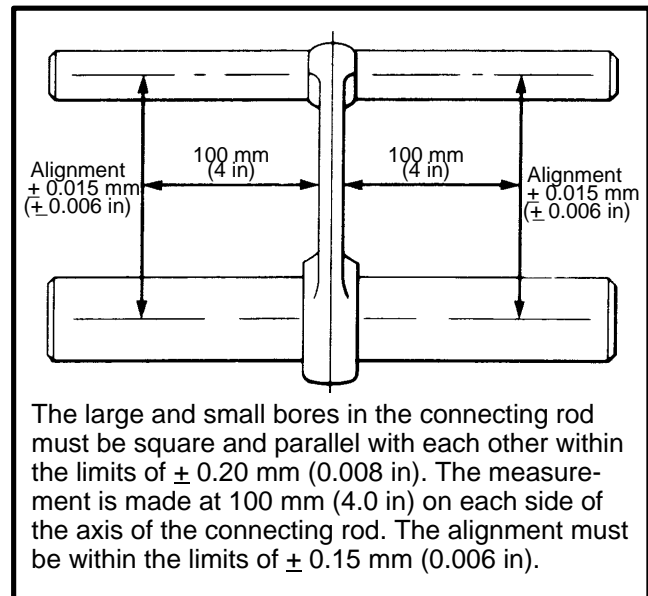

FIGURE 49. CHECK THE ALIGNMENT OF THE CONNECTING ROD
1. Clean and inspect the parts for wear and damage. Check the alignment of the connecting rods with a test fixture. See FIGURE 49.